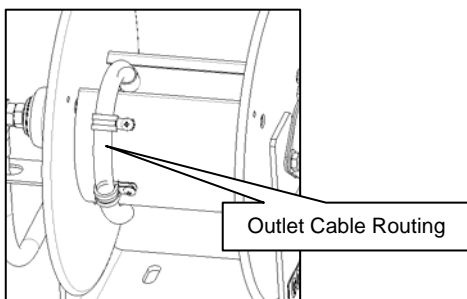

Figure 3
- Route the cable along the drum and secure supplied cable clamps. **Figure 3** shows proper cable routing.